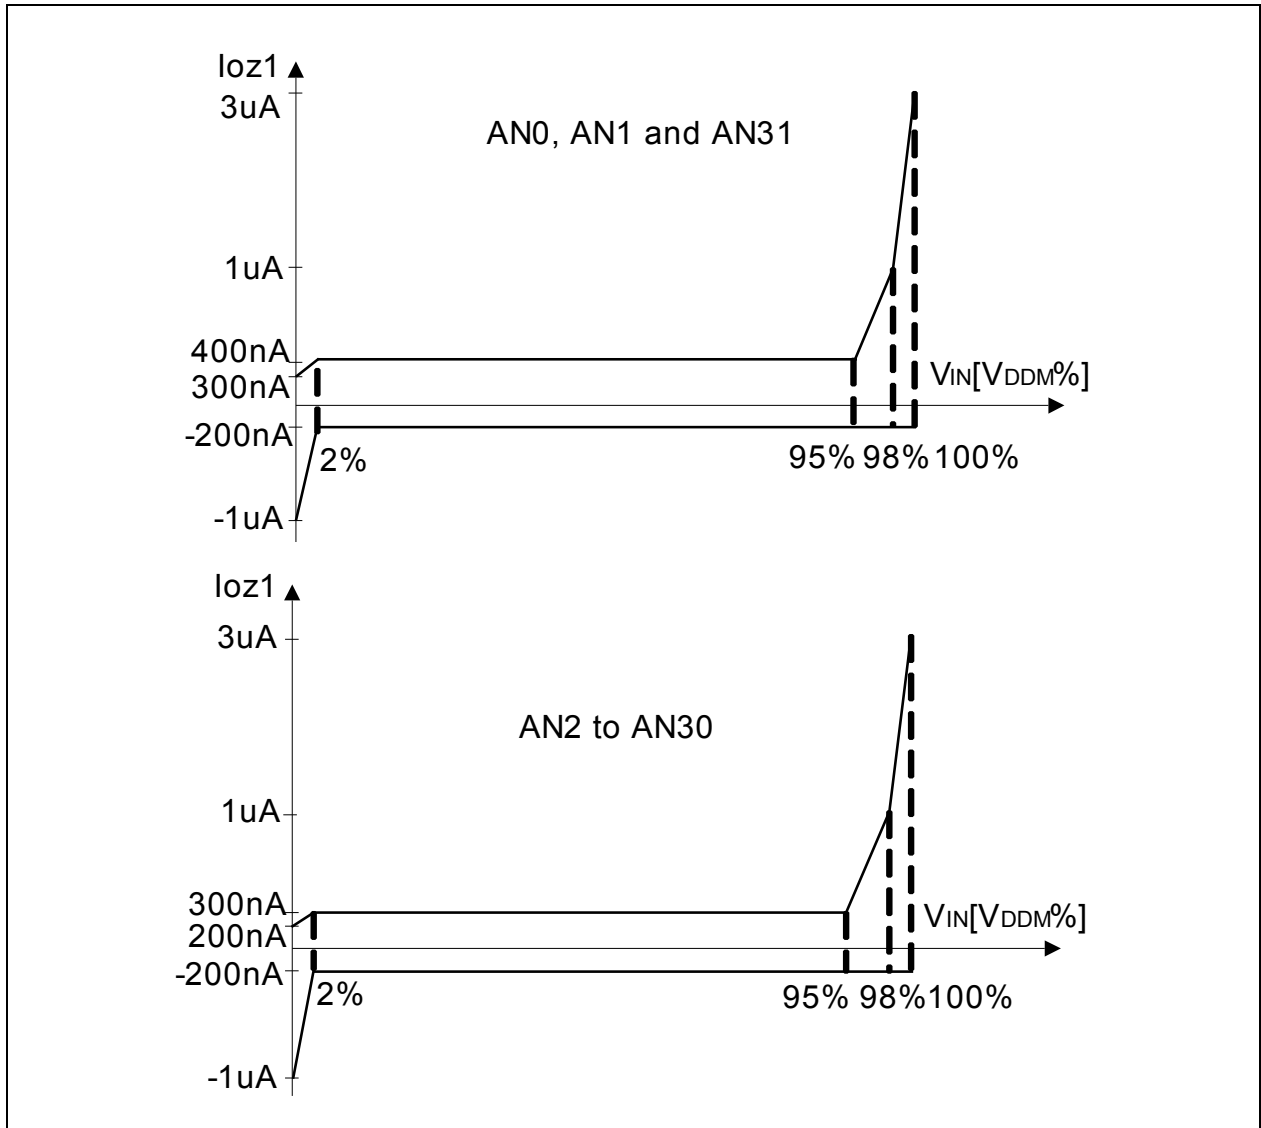

Figure 4-3 ADC0 Analog Inputs Leakage
- 13) The leakage current definition is a continuous function, as shown in Figure 4-3. The numerical values defined determine the characteristic points of the given continuous linear approximation - they do not define step function.